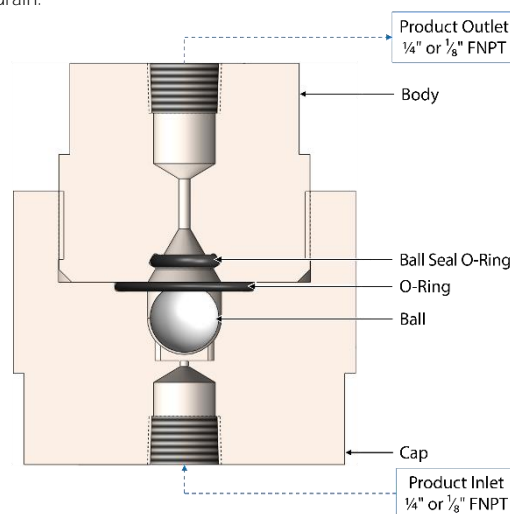

Figure 1: Welker® ALS-4 Analyzer Liquid Shutoff Diagram – Interior View
3. Connect the product supply to the inlet port of the ALS-4 (Figure 1).
4. Connect the outlet of the ALS-4 to the analyzer (Figure 1).
4. Unscrew the body from the cap (Figure 1).
7. Replace the O-ring in the cap (Figure 1).